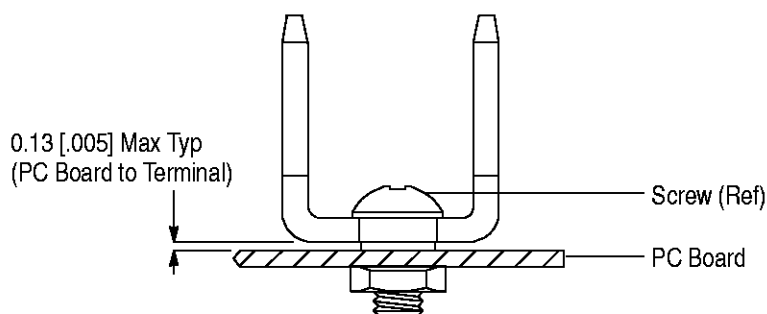

Figure 5
1. The terminal must be seated on the pc board to the dimension shown in Figure 5.